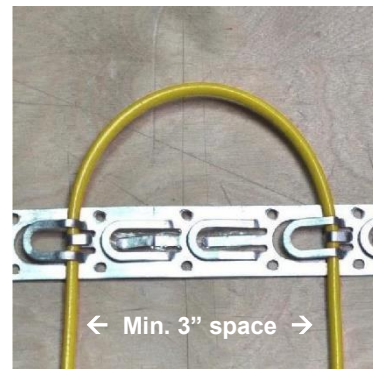

Figure 3.1
2. Route ThermoTile lead wires to a junction box or to the thermostat or control switch electric box. Connect the heating cables together and to the thermostat by **wiring the heating cable lead wires in parallel (not series) as follows**: white-to-white (neutral), black-to-black (line) and ground-to-ground (bare metal wires); NOTE: 240V wires are black and red. Connect ground wires to the power source ground or if using the MTC style thermostat to the terminal marked PE. The total Amp load of ThermoTile cables must not exceed the thermostat's 15 Amp limit or the Amperage rating of the circuit or other control switch without using an appropriately rated power module (sold separately) see Fig. 3.1 (120V circuit) or Fig. 3.2 (240V circuit).